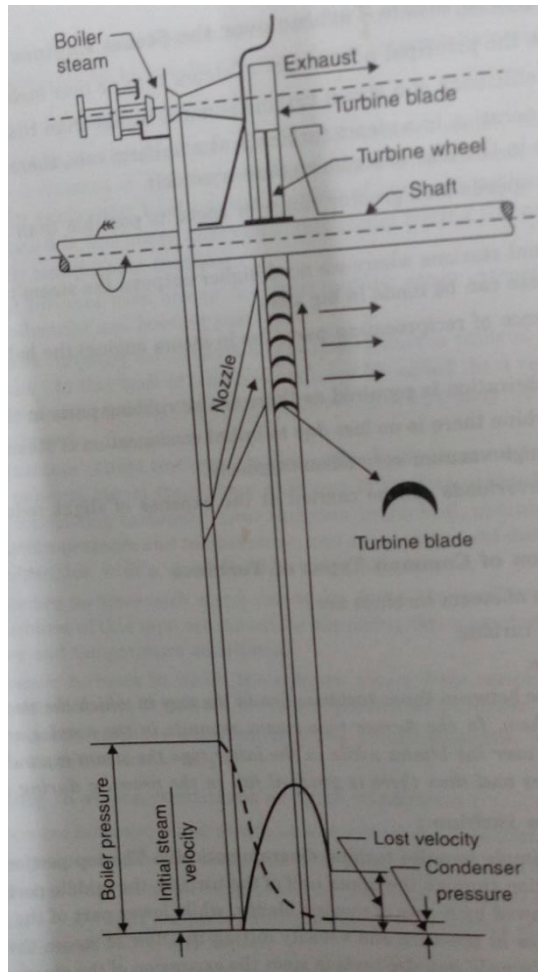

Figure 1 Impulse Turbine
- ❖ Following figure 1 shows the simple impulse turbine